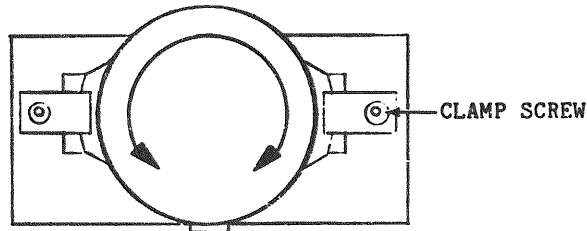

Figure 4-6. Stepper Motor Adjustment
- 1) Loosen the two clamp screws that hold the stepper motor to the sub-chassis (see Figure 4-6, Stepper Motor Adjustment).
- 3) Tighten the clamp screws (see Figure 4-6) snugly so the stepper motor cannot turn (be careful to not bend the stepper motor flange), and reverify the alignment.